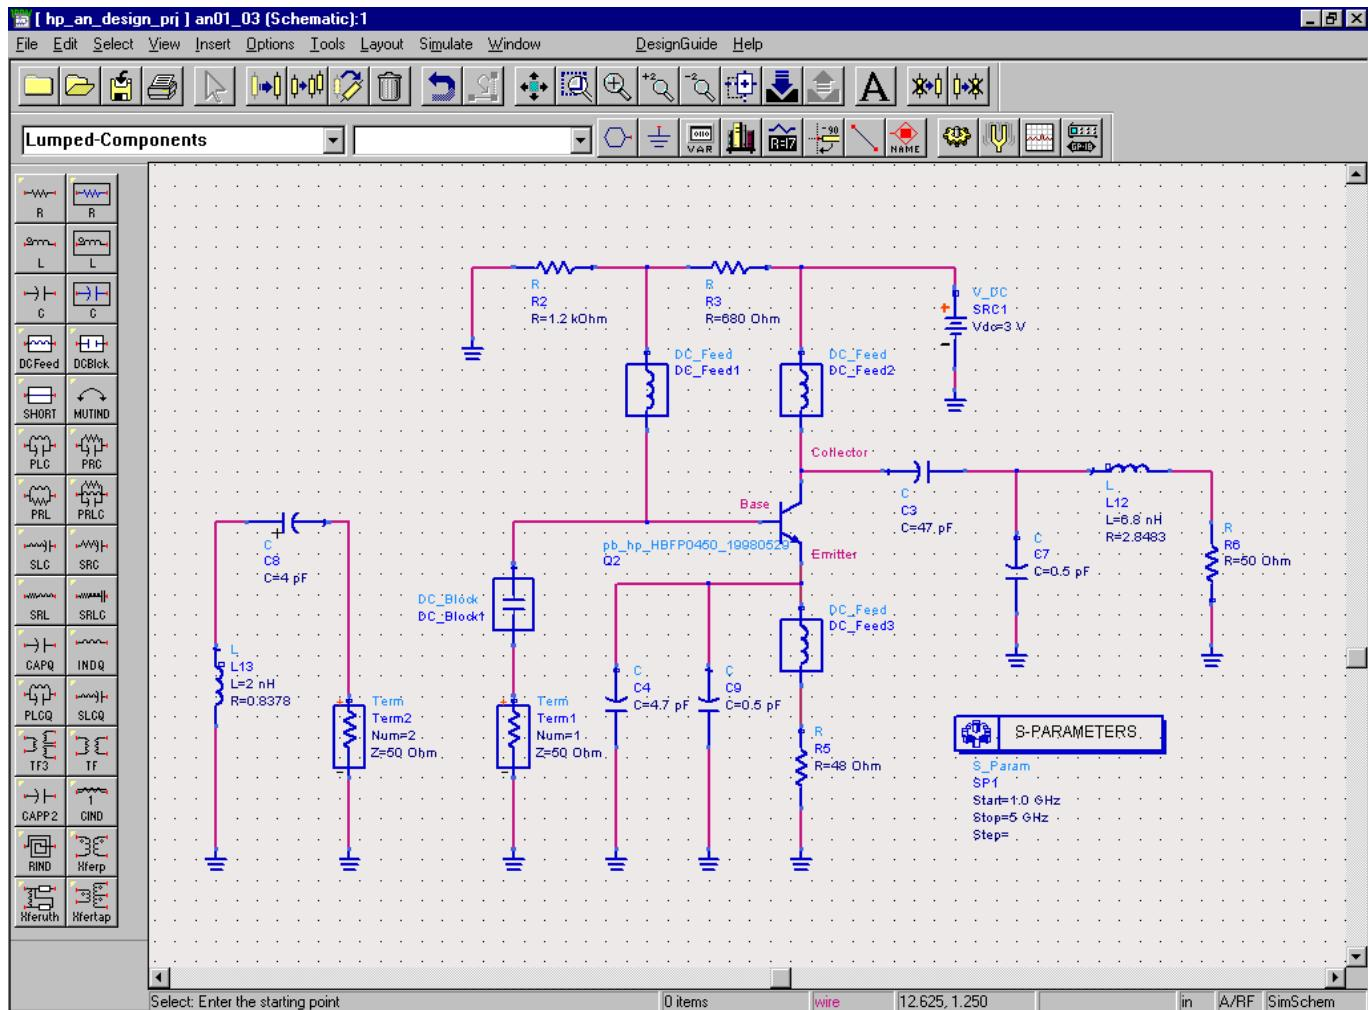
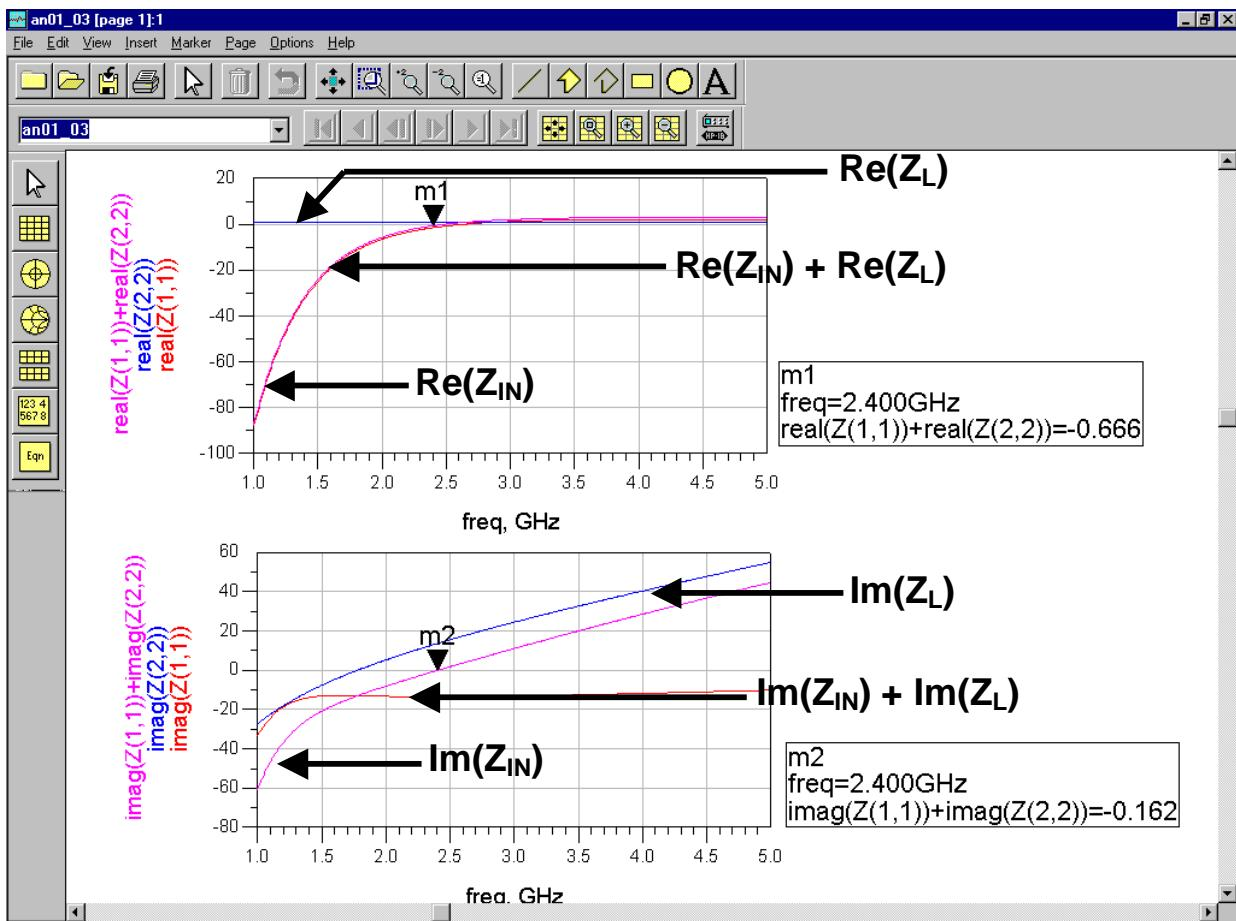
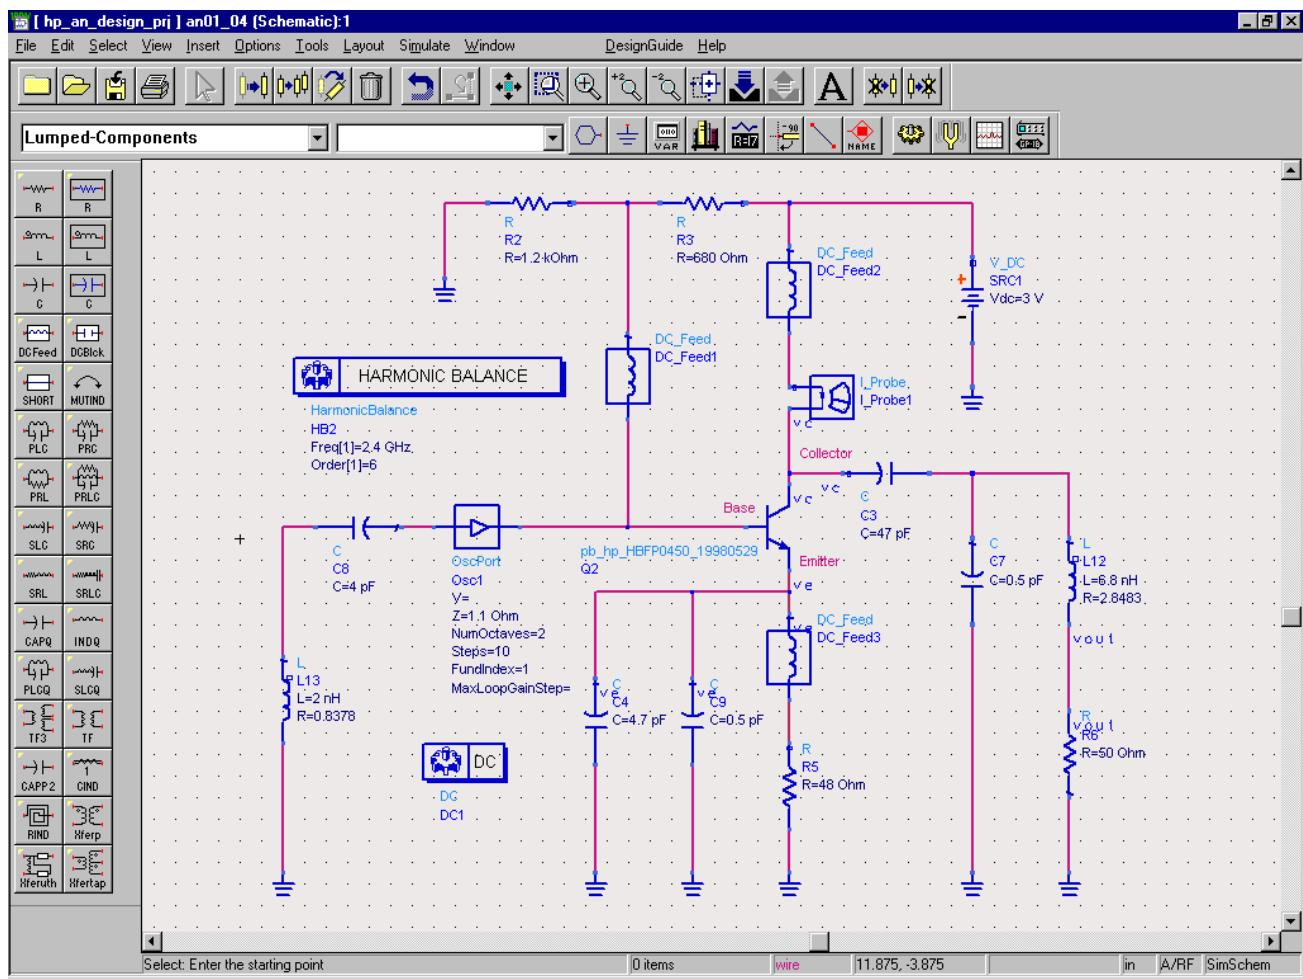

Fig. 7 Negative resistance and resonator simulation circuit
Fig. 8 Negative resistance and resonator simulation result
Fig. 9 2.4GHz oscillator circuit
After designed the biasing circuit, the transistor will be constructed as a common emitter capacitive feedback circuit (Fig. 7). This will produce a negative resistance in order to cancel the lost from the resonator. In this simulation, the S_param simulator in ADS is used to get the input impedance of the circuit. From the simulation result, it shows that the overall resistance of the circuit is zero near 2.4GHz (Fig. 8) and it satisfies equation (2). The reactance of the active device is capacitive at this frequency. It means that an inductive resonant tank is needed in this frequency to achieve the 2.4GHz oscillator design.
Now, an inductive resonator is needed in order to make the circuit oscillate. In the resonator, a 4pF capacitor is used to increase the oscillation frequency of the circuit due to the limited value of the lumped inductor. It acts as a dc-block of the resonator also (Fig. 7). The Q-factor of the inductor is assumed to be 36. It will give a loss in the form of a resistor of 0.8378Ω . It is included in the simulation in order to give a more accurate simulation result. The circuit is simulated by the S_param in ADS again. From the simulation result, it shows that the net reactance equals to zero near 2.4GHz (Fig. 8). This satisfies equation (3).
By combining the negative resistance and the resonator, the performance of the oscillator can be evaluated now. By modifying the circuit in Fig. 7, an oscillator circuit is obtained (Fig. 9). Here, the HB simulator is used. This simulator can simulate the fundamental frequency, output power and phase noise performance of the oscillator. Besides, the DC simulator will be used again to have a whole evaluation of the circuit.